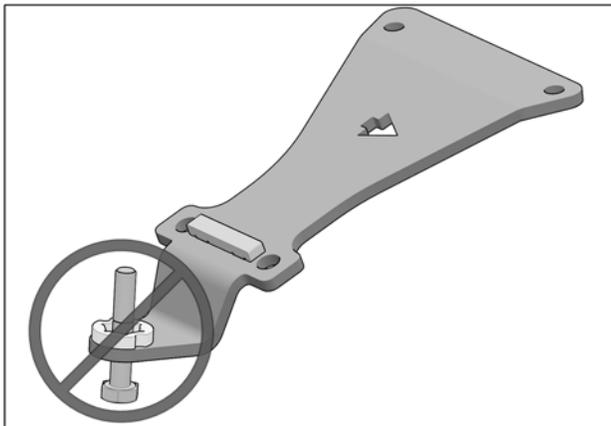

Fig. 24
**CAUTION:** Be sure that the bolt is inserted in the right direction. See Fig. 24